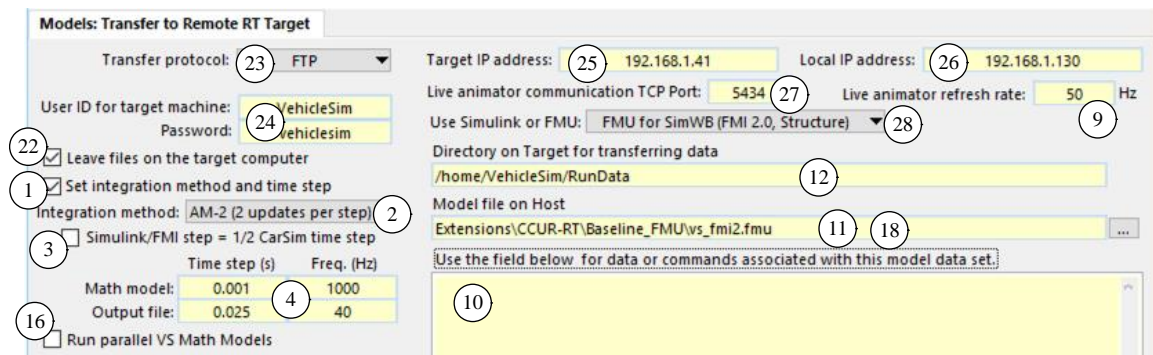

Figure 19. Top of the Models: Transfer to Target by FTP library screen.
When you click the **Receive** button, all output files generated in the simulation run are transferred from the target to the host for post-processing animation and plotting. This action is usually not needed; the transfer is done automatically by the VS Browser if you run only one VS Solver on the target machine. (The VS Solver signals to the VS Browser when a simulation run has finished.) Depending on the status of a checkbox (22) (Figure 19), the files on the target machine might be deleted automatically after the transfer.
This screen adds controls (22) - (27) that specify the protocol and settings for transferring data between the Windows host machine and the RT target machine (Figure 19). It also adds a drop-down control (28) for specifying the Simulink model or FMU type.
Nearly all of the discussion in earlier sections about basic and advanced controls applies here (see Figure 3 on page 4 and Figure 5 on page 9, which document the controls numbered ① - ⑯). The pathname for a generated FMU file ⑱ was introduced for the FMU library screen. Controls ⑳ - ㉓ that specify the protocol and settings for transferring data between the Windows host machine and the RT target machine were described in the preceding section (see Figure 19 on page 20).
Nearly all of the discussion in earlier sections about basic and advanced controls applies here (see Figure 3 on page 4 and Figure 5 on page 9, which document the controls numbered ① - ⑮). Controls ⑳ - ㉔ that specify the protocol and settings for transferring data between the Windows host machine and the RT target machine were described earlier (see Figure 19 on page 20).
Nearly all of the discussion in earlier sections about basic and advanced controls applies here (see Figure 3 on page 4 and Figure 5 on page 9, which document the controls numbered ① - ⑩). Controls ②④ - ②⑥ that specify the protocol and settings for transferring data between the Windows host machine and the RT target machine were described earlier (see Figure 19 on page 20).